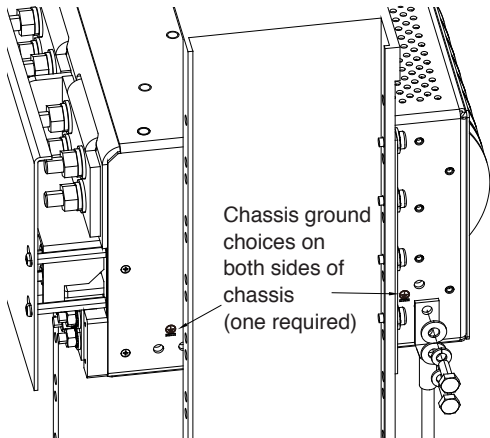

Figure 7 - Ground Lug Connection
8. Connect the lug using the 1/4 - 20 bolts, flat washers, and split washers provided, as shown in Figure 7.